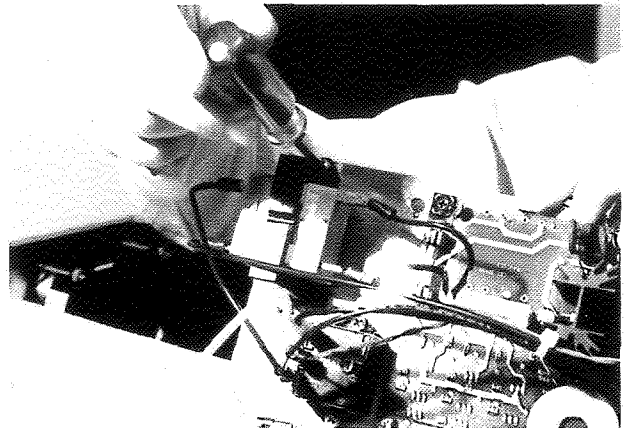

Figure 16
4. Remove screws mounting transformer to bracket. (See Figure 16)